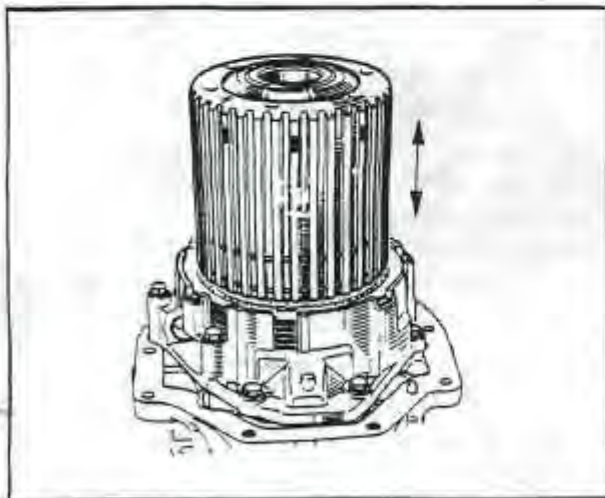

Fig. 34 CLUTCH C-2 ASSEMBLY
11. Remove the clutch C2 assembly by lifting off vertically. *Fig. 34*